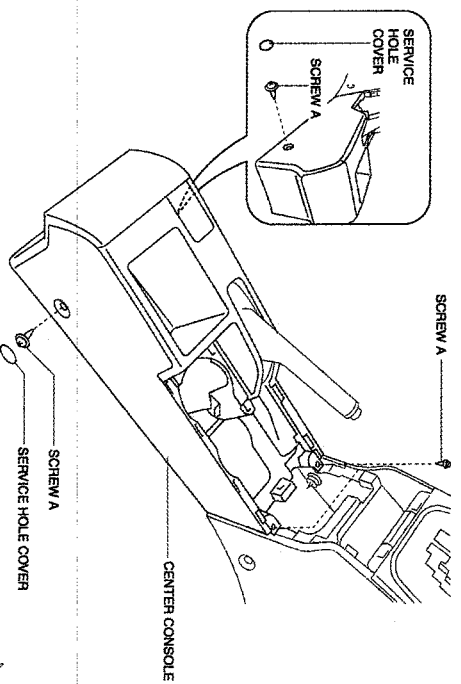

FIGURE 10
- 1.) REMOVE THE SERVICE HOLE COVERS THEN REMOVE SCREWS A. (SEE FIGURE 10)